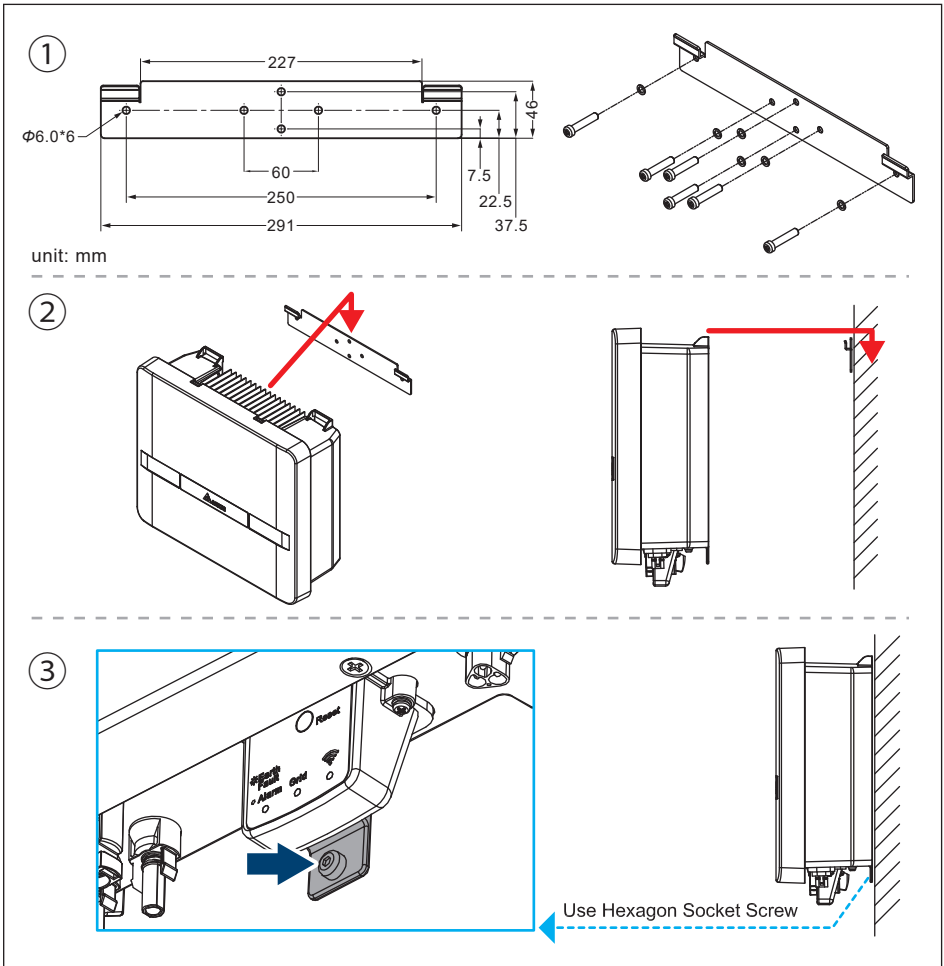

Figure 4-1 : Attaching the mounting bracket for H2.5 / H3 / H3A / H4A / H5A
- Please refer to **Figure 4-1**.